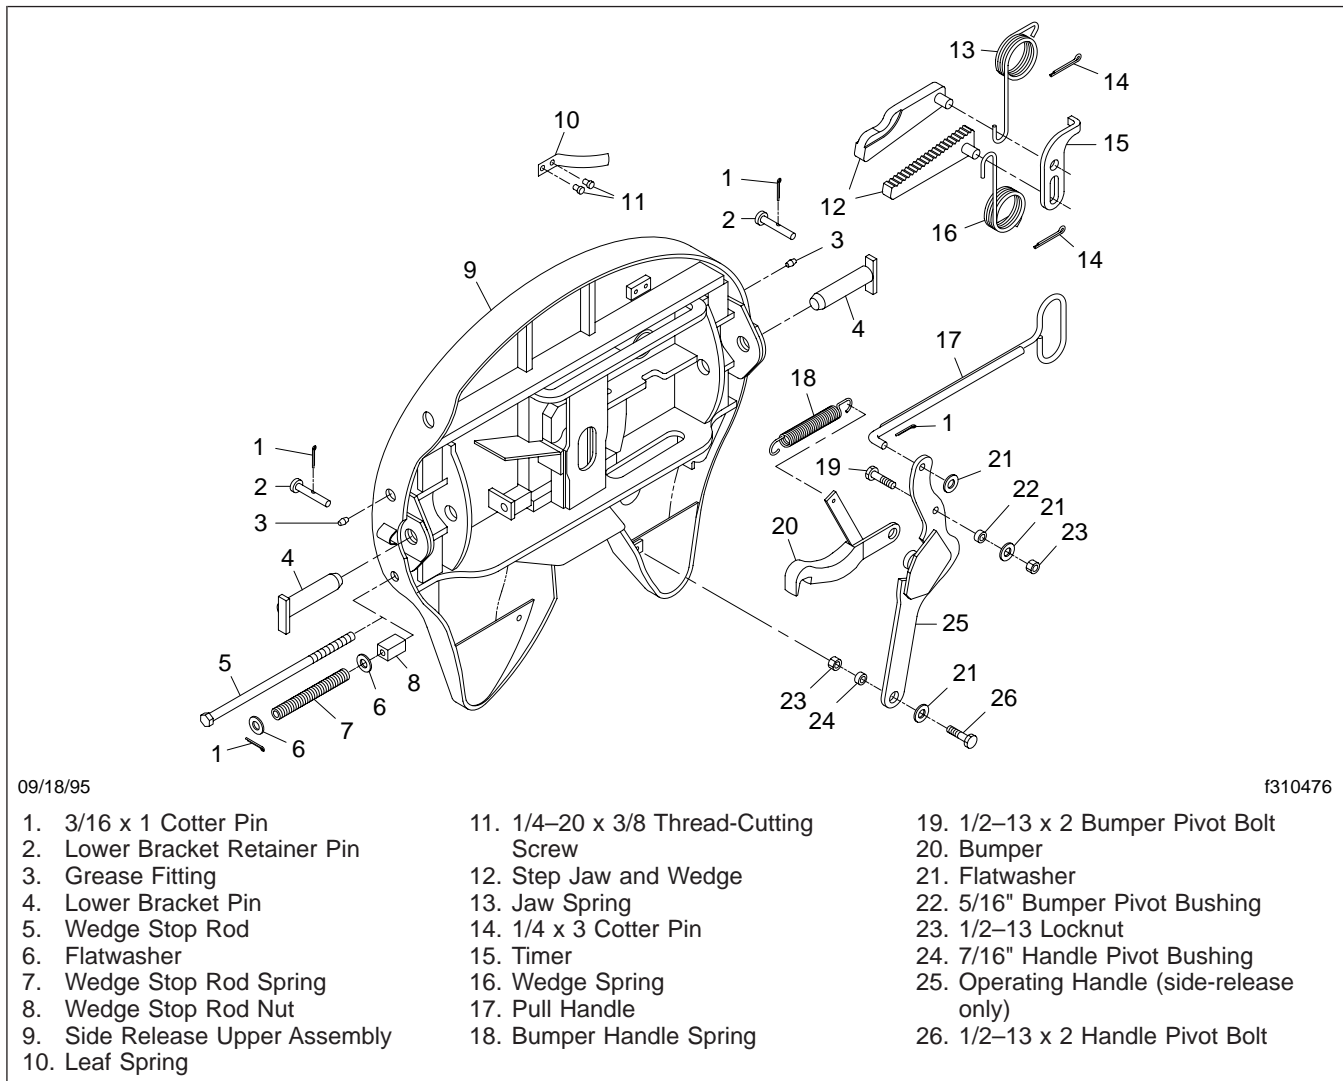

Fig. 1, Fontaine H5092 Series Fifth Wheel (left-side-release shown)
6. Visually check for loose nuts or bolts (see Fig. 1) on the fifth wheel and on the mounting. Set a torque wrench to the maximum torque value for the bolt being checked, and confirm that the torque is to specification. Do not loosen the bolt to check the torque value. See Group 00 of this manual for bolt torque specifications.